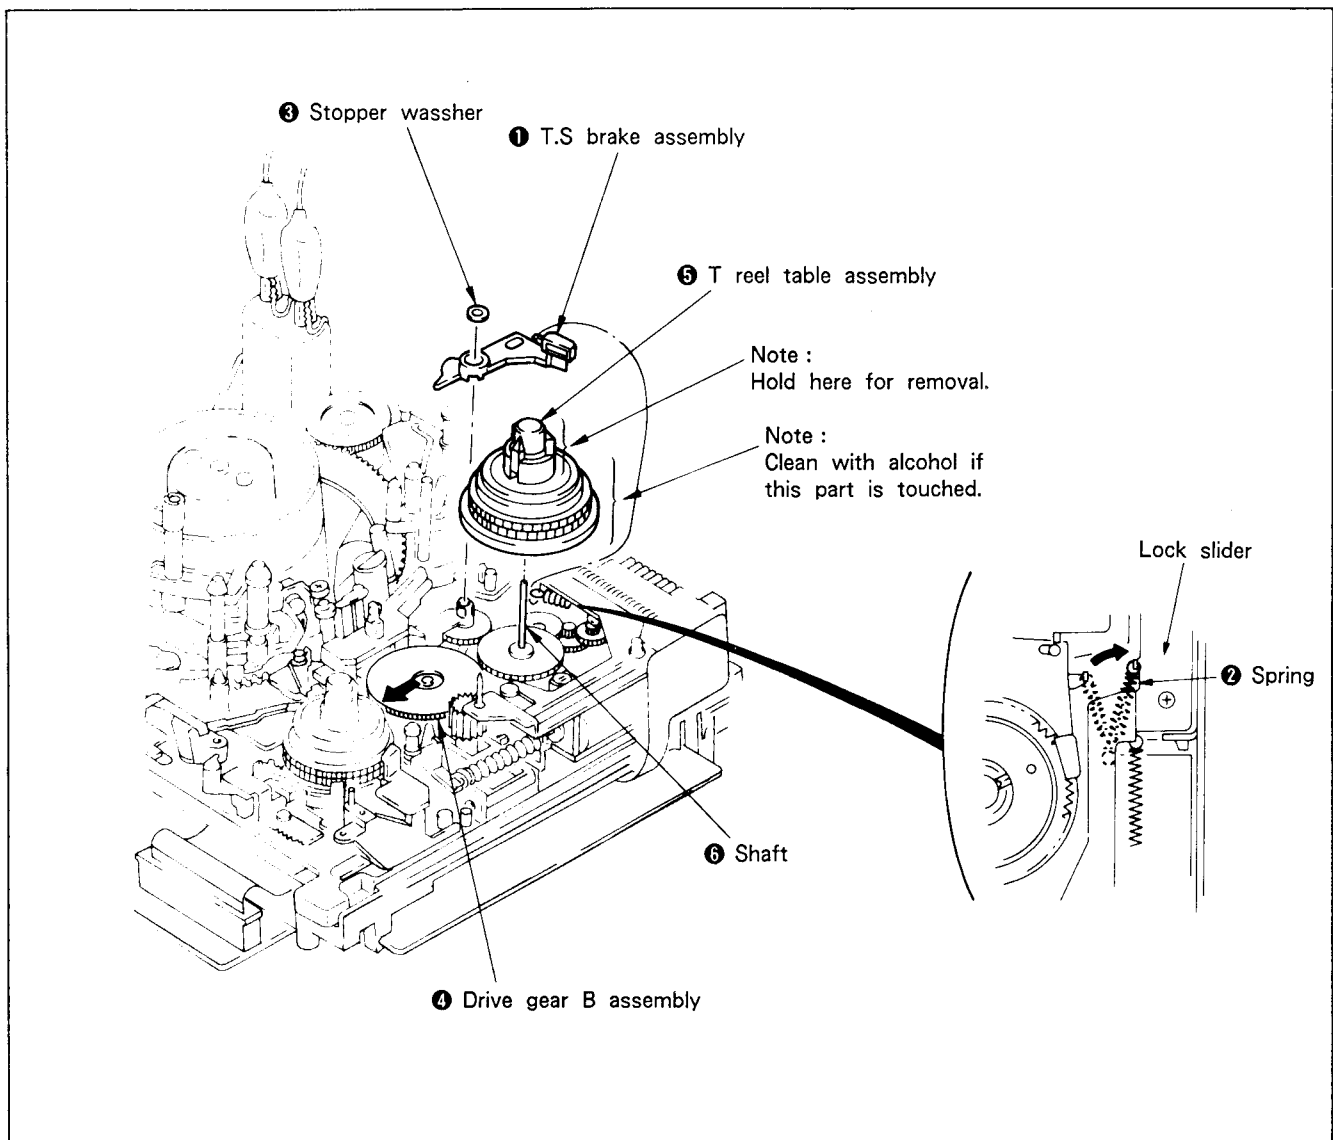

Fig. 7-7.
#### 1. Removal (See Fig. 7-7.)
- 3) Hook the spring ② on the T.S brake assembly ① to the claw of lock slider.
- 4) Remove the stopper washer ③ and remove the T.S brake assembly ①.
- 6) Move drive gear B assembly ④ in the direction of the arrow.
- 7) Remove T reel table assembly ⑤.
**Note:** Be sure to hold the upper reel claw section when removing. (See Fig. 7-7. (Note))
#### 2. Mounting (See Fig. 7-7.)